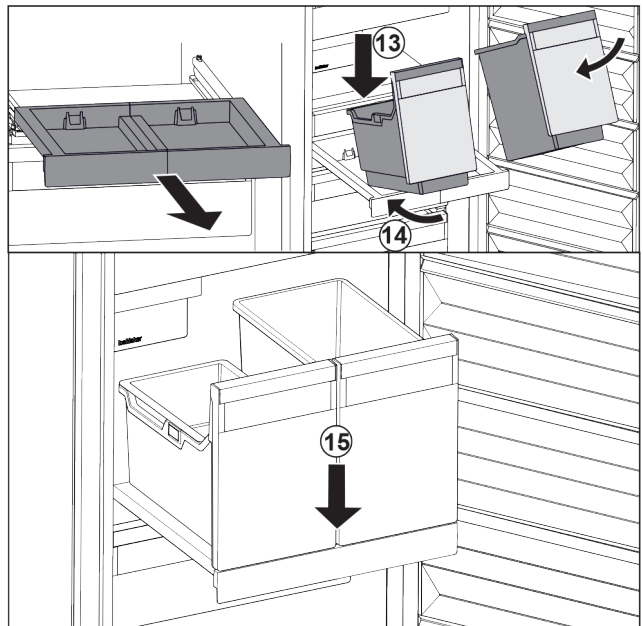

Fig. 95
- ▶ Place the container at an angle on the pull-out board. Fig. 95 (13)
- ▶ Slide the container to the back at an angle. Fig. 95 (14)
- ▶ Place container in the front. Fig. 95 (15)